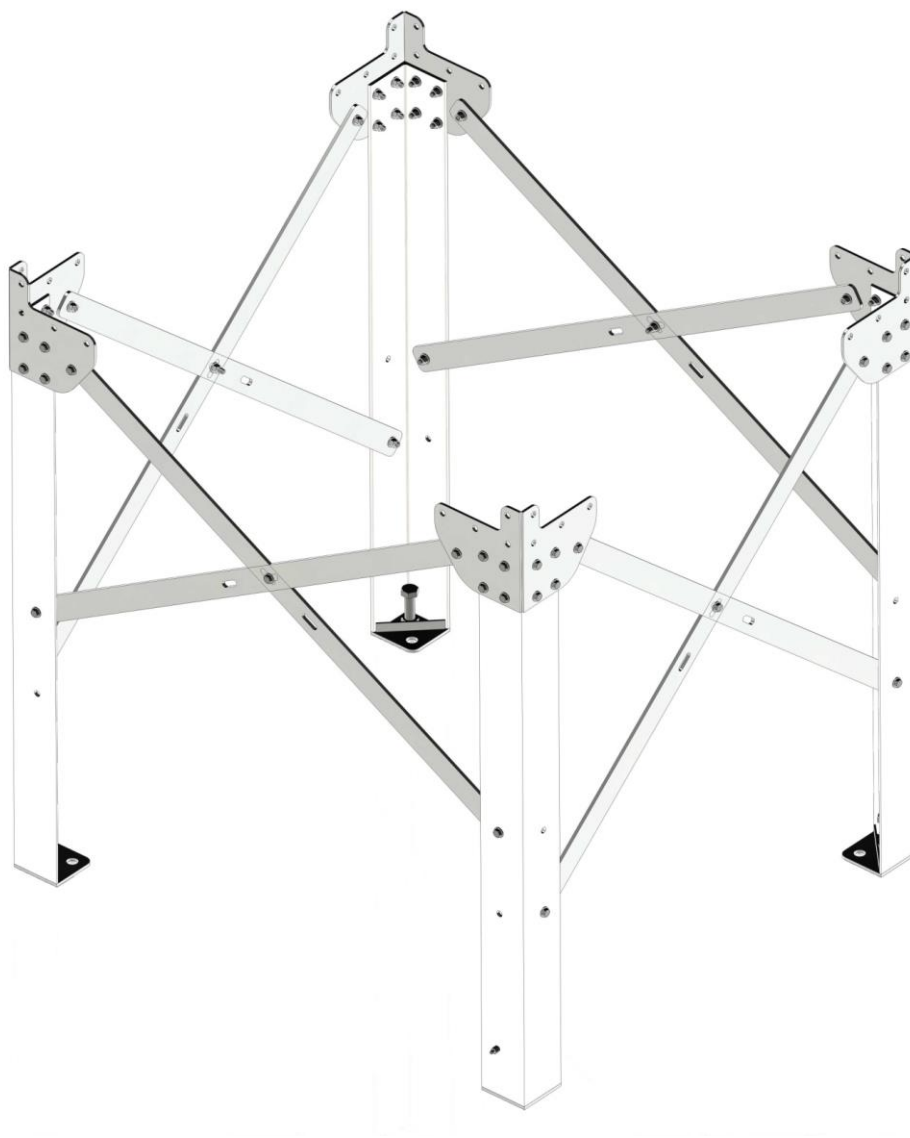

Figure 3
The position of the legs and crossbracing for each collector size are shown in Figure 3.
1. Stand the leg set up and position crossbar inside plates as shown in Figure 3.
5. Recheck the position of the leg sets and crossbracing against Figure 3.